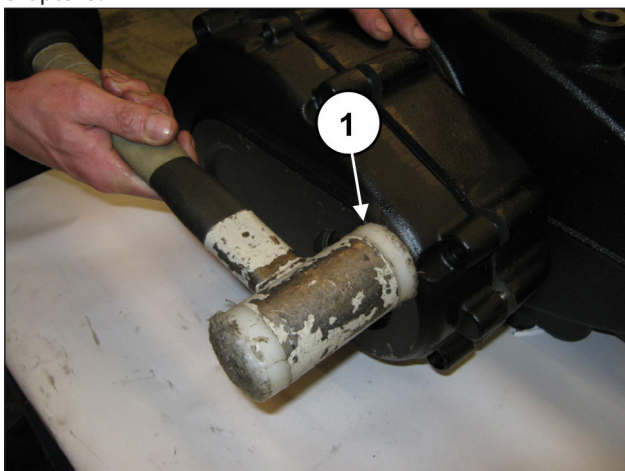
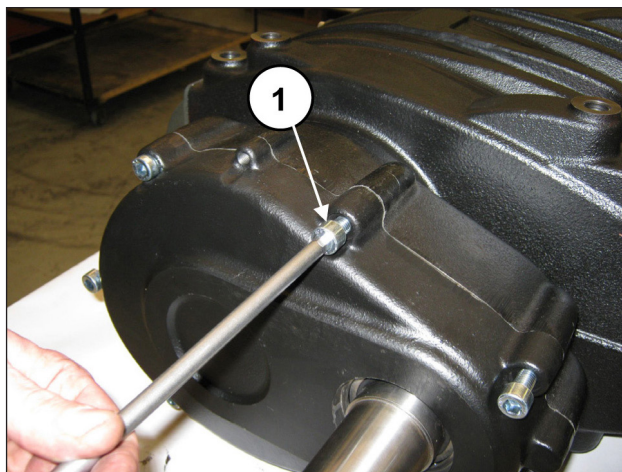

Fig. 87
Fig. 88
Assemble the reduction gear cover with the aid of an extractor hammer (pos. ①, Fig. 87) and fasten it with 7 M10x40 screws (pos. ①, Fig. 88).